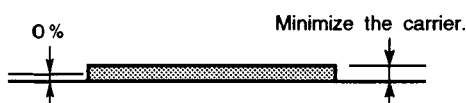

Fig. 5-1-34
- Adjust VR102 so that the Pedestal level becomes 0 % and the carrier becomes minimum as shown in Fig. 5-1-34.
- Adjust VR202 so that the Pedestal level becomes 0 % and the carrier becomes minimum as shown in Fig. 5-1-34.
- Adjust VR302 so that the Pedestal level becomes 0 % and the carrier becomes minimum as shown in Fig. 5-1-34.